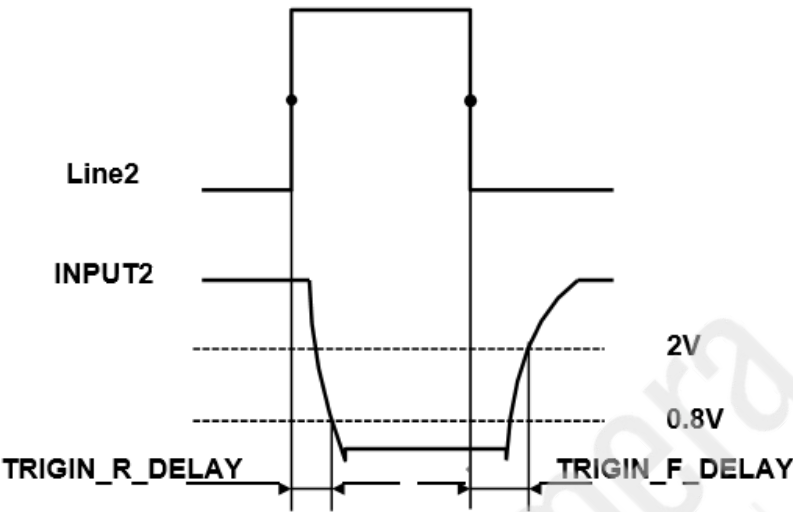

Figure 7-11 Parameter of Line2 input circuit
- Input rising time delay: $<2\mu\text{s}$ ($0^{\circ}\text{C}\sim 45^{\circ}\text{C}$), parameter description as shown in Figure 7-11.
- Input falling time delay: $<2\mu\text{s}$ ($0^{\circ}\text{C}\sim 45^{\circ}\text{C}$), parameter description as shown in Figure 7-11.